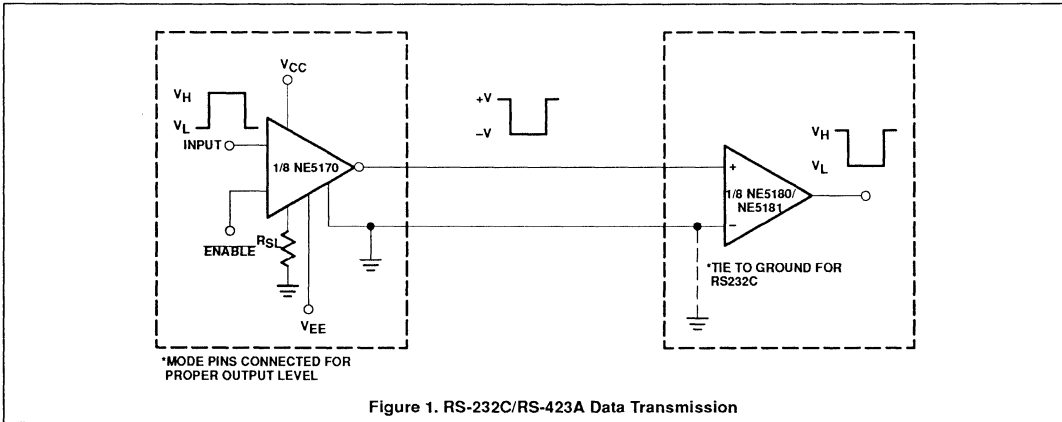

Figure 1. RS-232C/RS-423A Data Transmission
- See Figure 1 for threshold and hysteresis definitions.